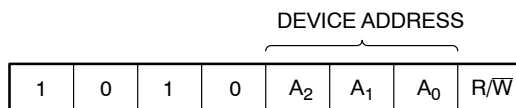

Figure 3. Slave Address Bits
The Master initiates data transfer by creating a START condition on the bus. The Master then broadcasts an 8-bit serial Slave address. The first 4 bits of the Slave address are set to 1010, for normal Read/Write operations (Figure 3). The next 3 bits, A2, A1 and A0, select one of 8 possible Slave devices and must match the state of the external address pins. The last bit, R/W, specifies whether a Read (1) or Write (0) operation is to be performed.